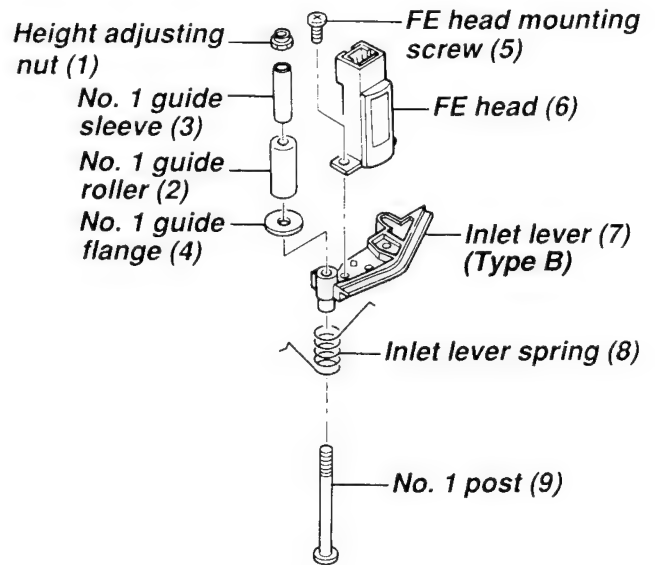

Fig. 4-3-3
2. Remove the FE head mounting screw (5) shown in Fig. 4-3-3 and the FE head (6) can be removed.
3. Remount a new FE head and tighten the FE head mounting screw (5).
1. Remove the nut (1) shown in Fig. 4-3-3 and then remove the No. 1 guide roller (2).